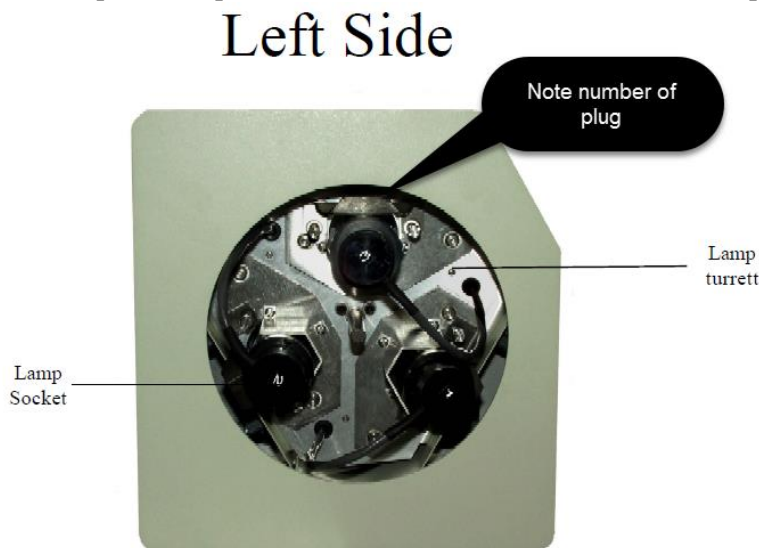

Figure 1. Lamp Holder. (Manual p. 6)
2. Slide lamp into lamp holder on left side. Note the number on the plug. (Figure 1)